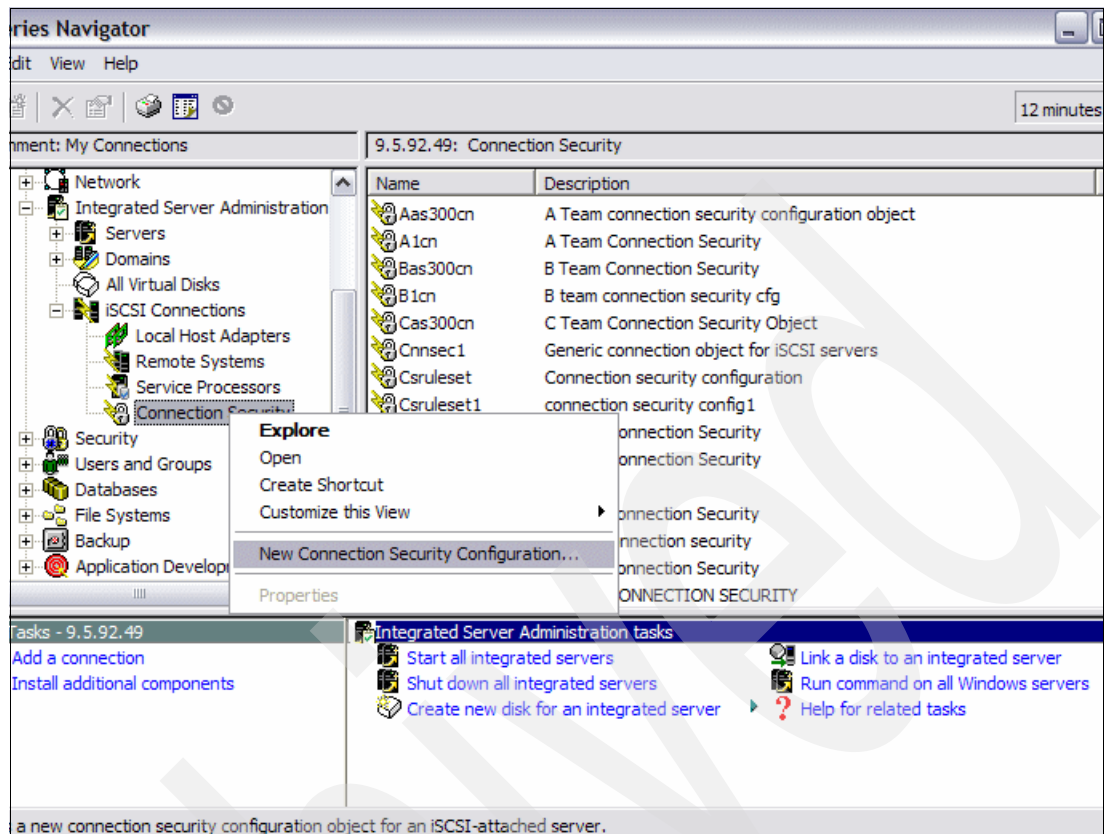

Figure 4-31 New Connection Security Object
- e. Click **New Connection Security Configuration**. See Figure 4-31 on page 76.